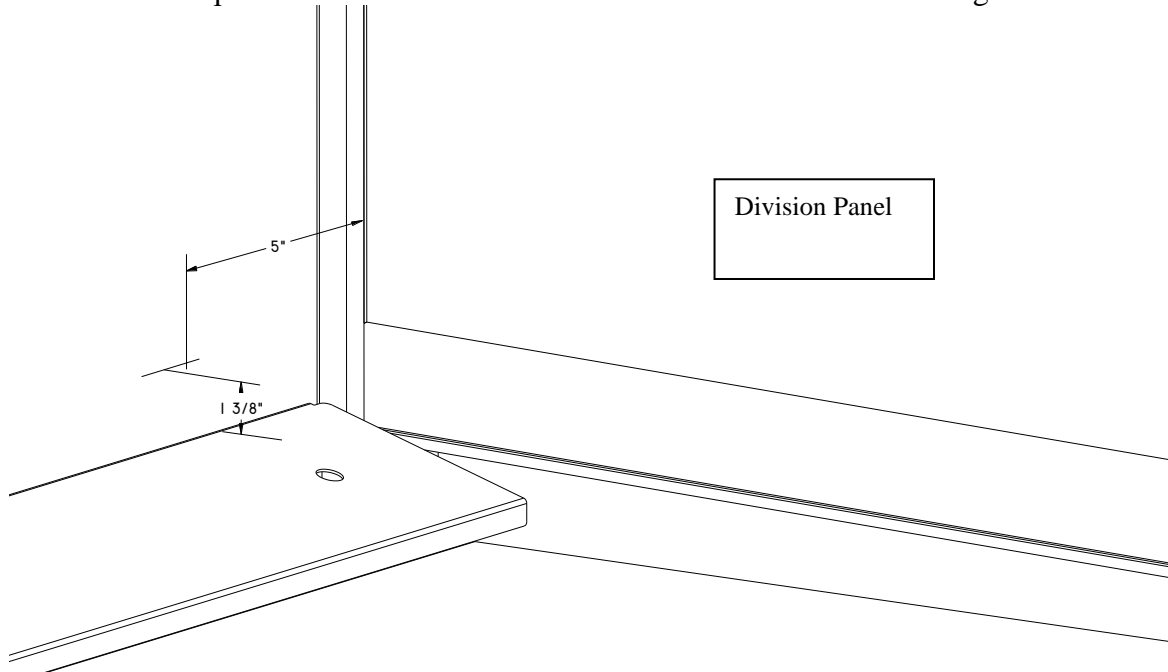

Figure 6.
- Beginning with the gutter covers in place measure in 5" from both division panels and up 1-3/8" from the top of the cover and make two marks on the back wall. See figure 6.